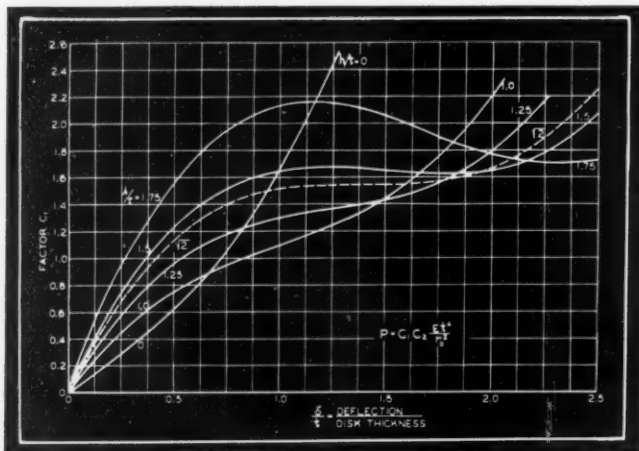
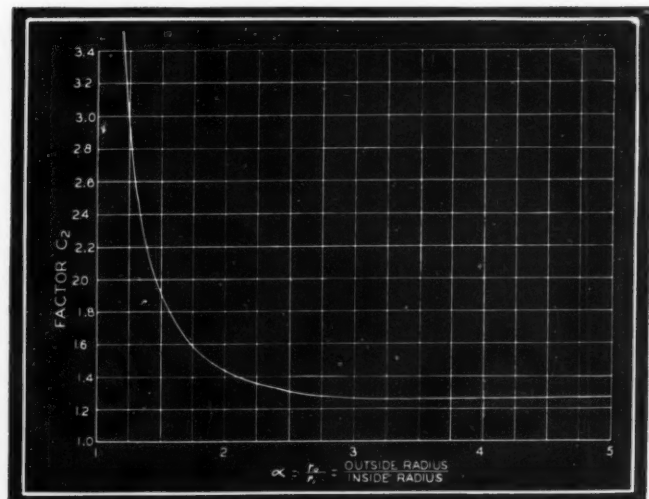
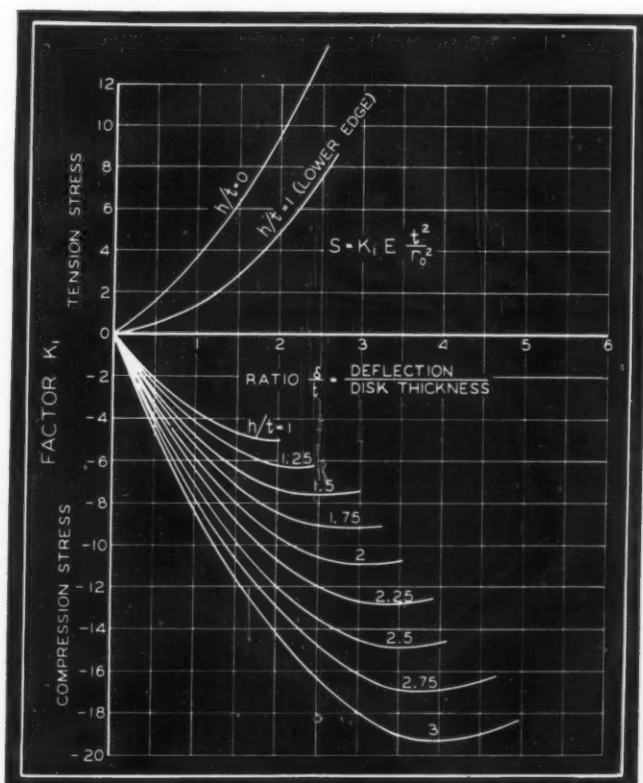
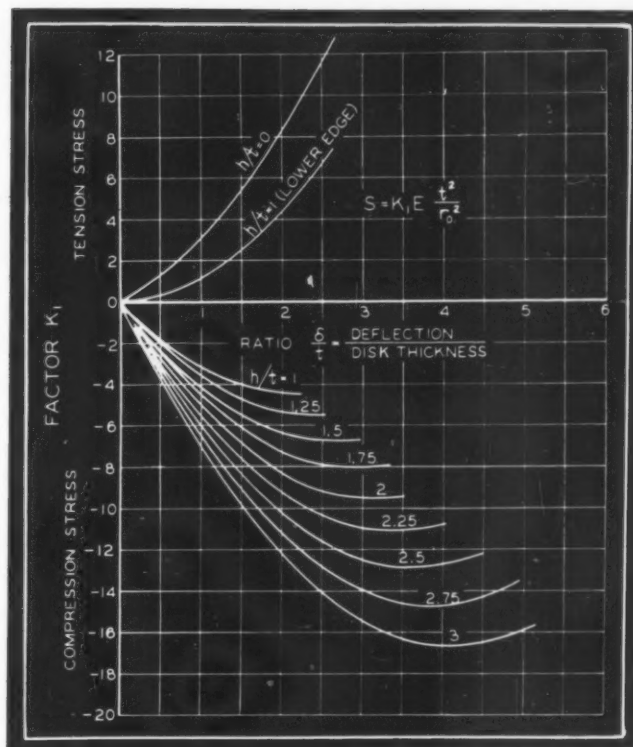

Fig. 6—Curves for determining deflection factor  $C_1$  for the lower ratios of deflection to disk thickness
Fig. 7—Values of factor  $C_2$  from ratio of outside radius to inside radius
Fig. 8—Stress factor  $K_1$  for values of outside radius to inside radius = 1.5
Fig. 9—Stress factor  $K_1$  for values of outside radius to inside radius = 2 to 2.5
Fig. 6 shows one of these transmission units. Each box has two right angle take-off shafts, which are coupled to inclined bevel gear shafts behind the process panels as can be seen in Fig. 10. Gears on the inclined shafts drive the self-lubricating plastic gears on the process reels. Each of the spiral driven gears in the transmission engages with a splined spiral clutch, which may be shifted to clutch out the line of reels driven by the inclined bevel gear shaft to which the output shaft of the gear box is coupled.
To facilitate practical computations, in Figs. 5 and 6 the value  $C_1$  has been plotted as a function of  $\delta/t$  for various values of  $h/t$ , to cover the chief practical range of interest. To obtain greater accuracy, Fig. 6 may be used for the smaller values of  $C_1$ . Values of  $C_2$  are plotted as functions of  $\alpha = r_o/r_i$  in Fig. 7.
inner radius, it follows that the shape of the load-deflection characteristic can be changed materially only by altering the ratio  $h/t$  between initial cone height and disk thickness. At  $h/t = \sqrt{2}$  (shown dotted in Fig. 6) the curve has a horizontal tangent and for a considerable range the rate is low. For  $h/t = 1.5$  there is an even greater range of low spring rate but in this case the load drops slightly after reaching a maximum. When  $h/t$  reaches a value of about 2.8 the load drops below zero at the larger deflections, so that buckling of the spring occurs. As may be seen from Fig. 5, a wide variety of types of curves may be obtained by changing  $h/t$ . Interpolation may be used
For facilitating practical computations, values of  $K_1$  have been plotted as functions of the ratio  $\delta/t$  for various values of  $h/t$  in Figs. 8 and 9. For ratios  $r_o/r_i$  equal to 1.5, the curves of Fig. 8 apply, a positive value of  $K_1$  representing tension stress, a negative representing compression stress. It was found that within the range shown by the curves for values of  $h/t$  between 1 and 3 (where  $\delta < 2h$ ) the maximum stress will be compression at the upper inner edge. For deflections  $\delta$  equal to  $2h$ , the tension in the inner edge equals the compression in the upper, and for  $\delta > 2h$ ,
This is shown by the upper curve for  $h/t = 1$ , i.e. when  $\delta/t = 2$  or  $h = 2t$  then the compression and tension stresses at the two edges become equal, and for  $\delta/t > 2$  the upper curve yields higher values. For most practical cases where  $h/t$  is between 1 and 3 the maximum stresses will be obtained by using the lower group of curves in Figs. 8 and 9. Interpolation may be used for intermediate values of  $h/t$ . In doubtful cases where  $\delta > 2h$ , the stress should be checked by using Equations 3 and 4.
In Fig. 9, a similar series of curves is given for computing the factor  $K_1$  for a ratio  $r_o/r_i = 2$ . These curves also will hold within a few per cent for ratios  $r_o/r_i$  between 2 and 2.5. For ratios between 1.5 and 2 linear interpolation may be used between Figs. 8 and 9 with sufficient accuracy. Thus at a ratio  $\alpha = r_o/r_i = 1.75$  the average value obtained from Figs. 8 and 9 should be used.
proximately constant at 6000 pounds so that the type of load-deflection curve desired is that for  $h/t = 1.5$  (Fig. 1). The space available will permit using an 8½ inch outside diameter spring. Deflection of the spring may vary between ¼ and ¾ inch at the design load and the maximum stress is to be limited to 200,000 pounds per square inch. Taking  $r_o = 4\frac{1}{4}$  inches,  $r_i = 2\frac{1}{4}$  inch,  $\alpha = r_o/r_i = 2$ , from Equation (9) we have  $S = K_1 E t^2 / r_o^2$  where  $K_1 = -6.7$  from Fig. 9 for  $h/t = 1.5$ , this being the maximum value. Solving this for  $t$ , and taking  $S = -200,000$  pounds per square inch (compression), we find
From Fig. 6 for  $h/t = 1.5$ ,  $C_1 = 1.68$  on the flat part of the curve and from Fig. 7, for  $\alpha = 2$ ,  $C_2 = 1.45$ . From Equation (7) the load per disk will be
Since we desire 6000 pounds it will be necessary to use 5 springs in parallel, which will give approximately the right load. From Fig. 6 it is seen that for  $h/t = 1.5$ ,  $C_1$  is approximately constant from  $\delta/t = .75$  to  $\delta/t = 2.1$ . Since  $t = .134$ , this means the load will be constant from  $\delta = .75 \times .134 = .1$  inch to  $\delta = .28$  inch which is about what is required. If the maximum deflection is ¼ inch the maximum value of  $\delta/t$  will be  $.25/.134$  or about 2. From Fig. 9, for  $\delta/t = 2$
**Example 2.** Assume that a curve such as that shown in Fig. 5 for  $h/t = 2.5$  is desired for a snap action device, to operate in such a way that when the load reaches a certain point represented by the peak on the curve, the system becomes unstable and a large deflection occurs with resulting snap-action. Assume that a maximum load of about 520 pounds is desired, that space is available for an 8 inch diameter disk and that a stop is provided so that the spring may deflect  $\frac{1}{4}$  inch before coming against the stop. It is desired that at  $\frac{1}{4}$  inch deflection when the spring is against the stop the load will be represented by point on curve for  $h/t = 2.5$  corresponding to  $\delta/t = 3$ . Since at maximum deflection  $\delta = \frac{1}{4}$  inch this means that  $t = .25/3 = .0833$  inch and  $h = 2.5 \times .0833 = .208$  inch. Assuming  $\alpha = 2$ , from Fig. 9 we find  $K_1 = -12.5$  for  $\delta/t = 3$ ,  $h/t = 2.5$ . From Equation (9), solving for  $r_o$ .
Taking  $S = -180,000$  pounds per square inch (compression),  $t = .0833$  inch and solving,  $r_o = 3.8$  inch, say  $3\frac{3}{4}$  inch. From Fig. 7, for  $\alpha = 2$ ,  $C_2 = 1.45$  and from Fig. 5, the maximum value of  $C_1$  (corresponding to maximum load) for  $h/t = 2.5$  is 4.6. From Equation (7) the peak load is
beyond the point on the curve for  $\delta/t = 3$ , but in this case this is permissible. Also the maximum stress will not be changed since from Fig. 8, for  $h/t = 2.5$ ,  $\delta/t = 3.2$ , the factor  $K_1$  is practically the same as for  $\delta/t = 3$ . From Fig. 5, for  $\delta/t = 3.2$ ,  $h/t = 2.5$  we obtain  $C_1 = 1.3$ . Since  $C_1 = 4.6$  at the peak load, the load when the spring is against the stop will be  $1.3/4.6 \times 520 = 147$  pounds.